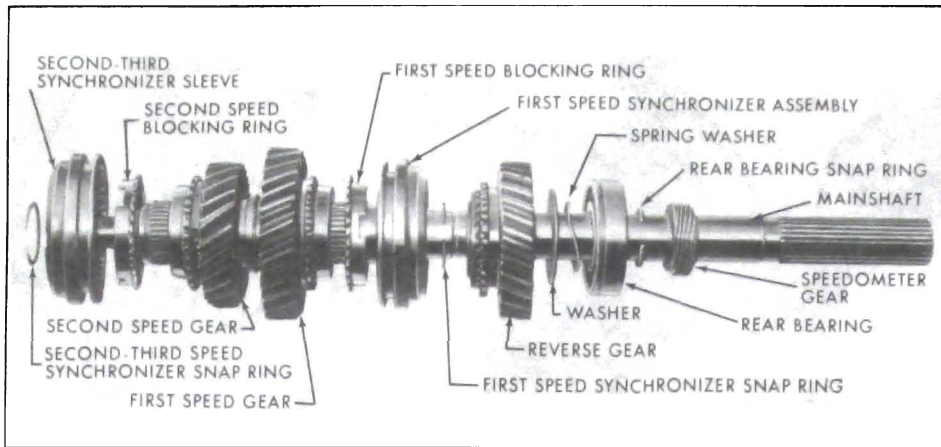

Figure 72-10 - Exploded View of Mainshaft
1. Remove second-third synchronizer sleeve. See Figure 72-10.